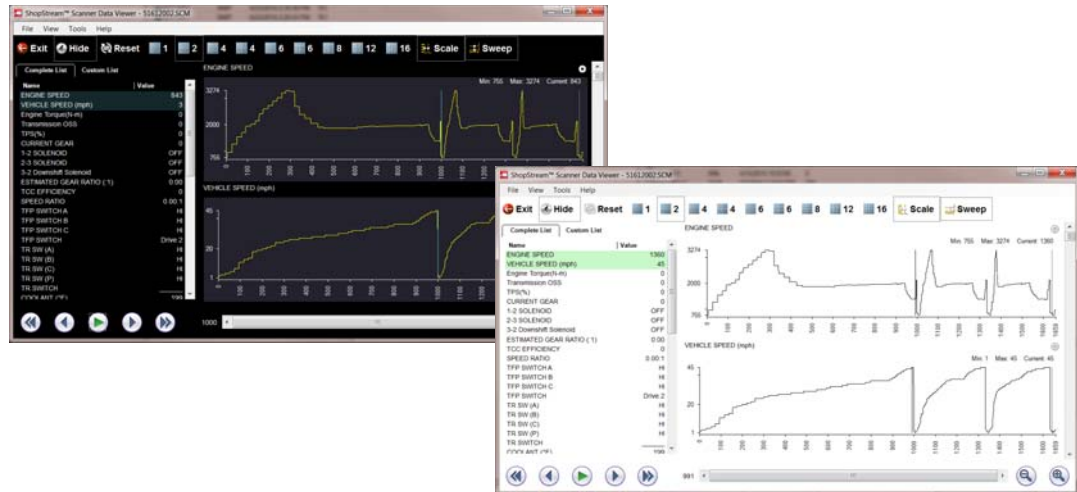

Figure 7-8 View Settings - Default (left) and Printer Friendly (right)
- **Printer Friendly** - displays graphs with a white background.See (Figure 7-8) for examples.